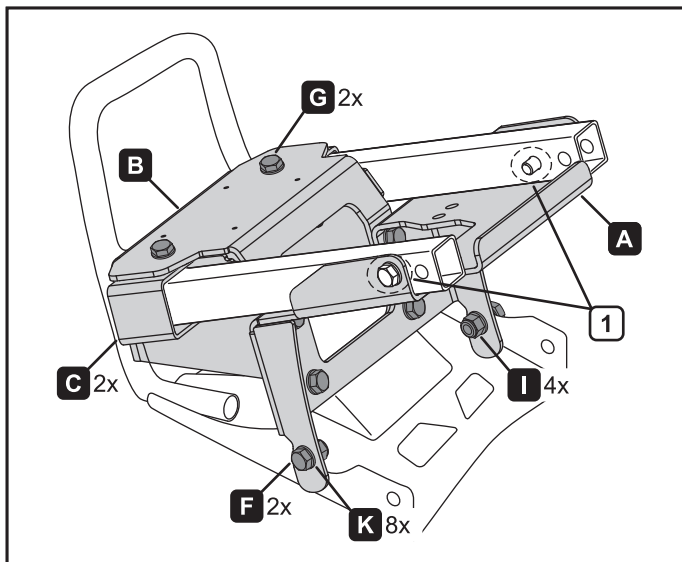

Figure 2.
2. Install winch mount (A) into bumper, first align the top holes by temporarily inserting two of the bolts (1) removed in step 1, then fasten the bottom of the mount with bolts (F), washers (K) and lock nuts (I), see figure 2.
3. Loosely install fairlead mount (B) and both square tube brackets (C) with bolts (G), washers (K) and lock nuts (I) as shown in figure 2.